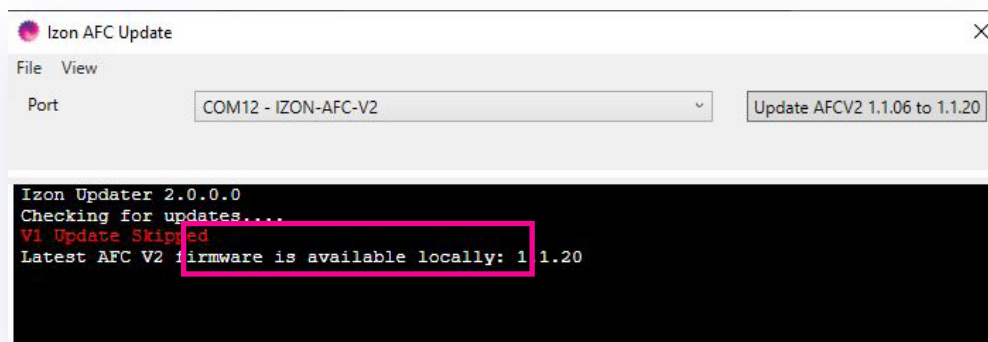

Figure 22: The Izon AFC Updater with the AFC correctly selected in the “Port” dropdown box.
6. Ensure that Automatic Fraction Collector is shown in the Port box, as shown in Figure 22.